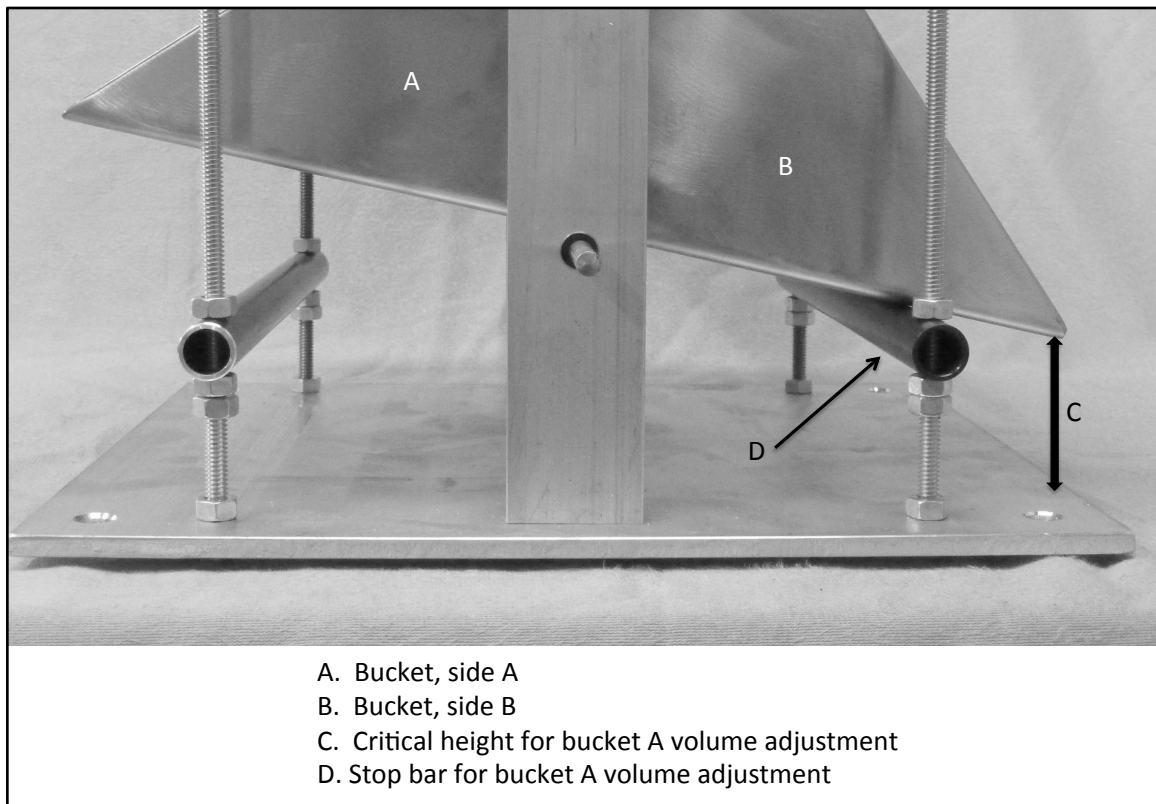
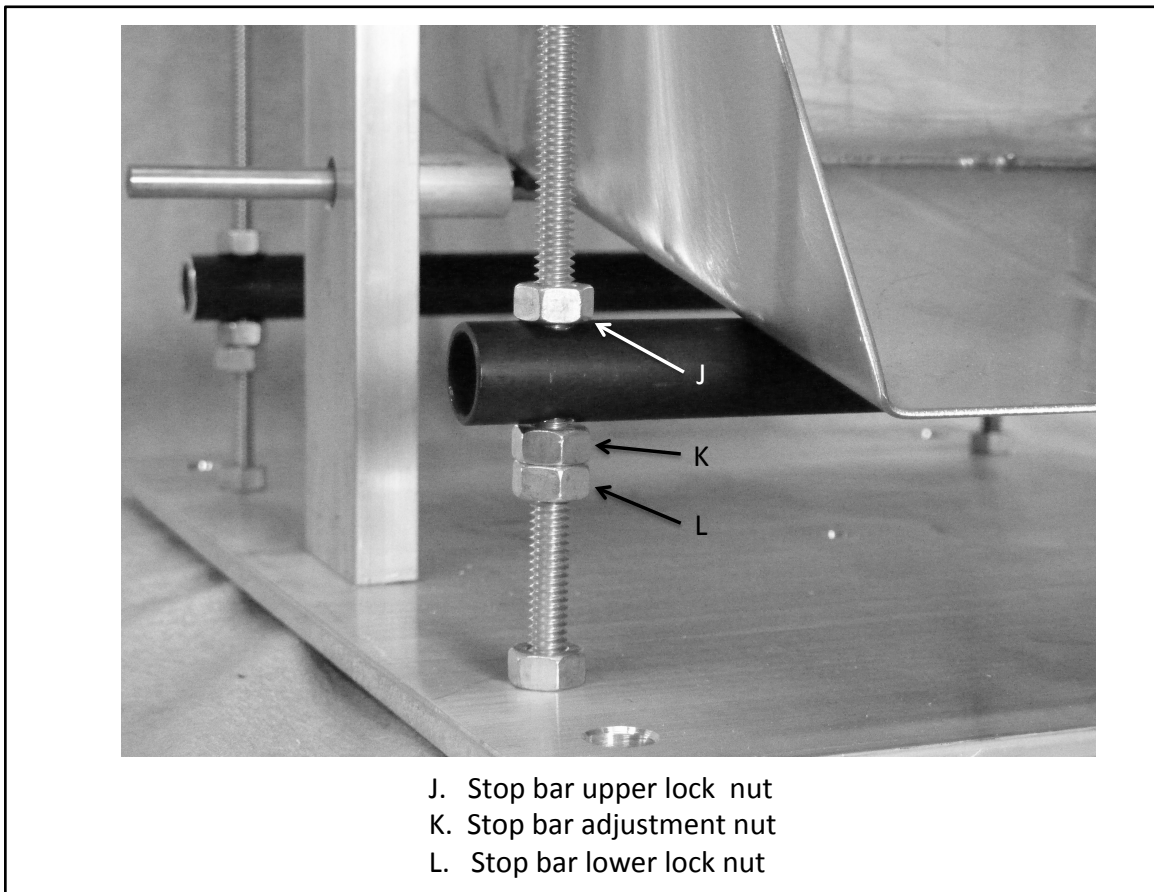

Figure 2. Stop bar and buckets. Distance C controls volume in bucket A.
Figure 3. Detail of stop bar adjustment and locking assembly.
The tipping bucket volume is adjusted by raising or lowering the stop bar. This adjustment is accomplished by moving the brass nuts on the support rods upward or downward. Note that adjusting the stop bar on the opposite side of the bucket in question controls the volume, e.g. raise or lower the stop bar on side B to control the tipping volume on side A (Figure 2). Before moving the stop bar, loosen the top locking nuts on the stop bar support rods (Figure 3, J). Then unlock the two nuts below the stop bar (Figure 3, K and L), using two wrenches to separate. Note that if you try to move the lower nuts with one wrench, without unlocking them, you will destroy the threads on the brass support rods and further adjustment will be impossible. Loosen the nuts to the appropriate heights, move the stop bar, snug the nut on top (J) and bottom (K) of the stop bar and check your calibration. If the calibration volume is not correct, repeat adjustments and measure volume again. If it is correct, carefully tighten the bottom lock nut (L) against the adjustment nut (K) and snug the top nut (J) downward on the top bar. Do not over-tighten any of the nuts. Brass is, by nature, a soft metal and you will compromise the nut or the rod threads if you are too vigorous. The height of the stop bar is not likely to be the same on both sides of the assembly for similar tipping volumes because the axle position on the bucket is approximate and the exact side-to-side weight on the bucket will differ between sides.
where V is bucket volume (cm^3 or cc), and H is height (cm) from base plate to opposite-side bucket lip (see Figure 2). The coefficients have been rounded to a reasonable number of significant digits and for the intended approximation. To solve this equation for the height to produce a specific volume: